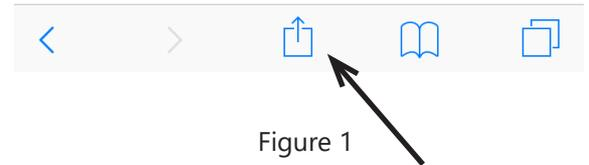

Figure 1
3. Tap on the 'Share URL' icon at the bottom of your screen as shown in figure 1.